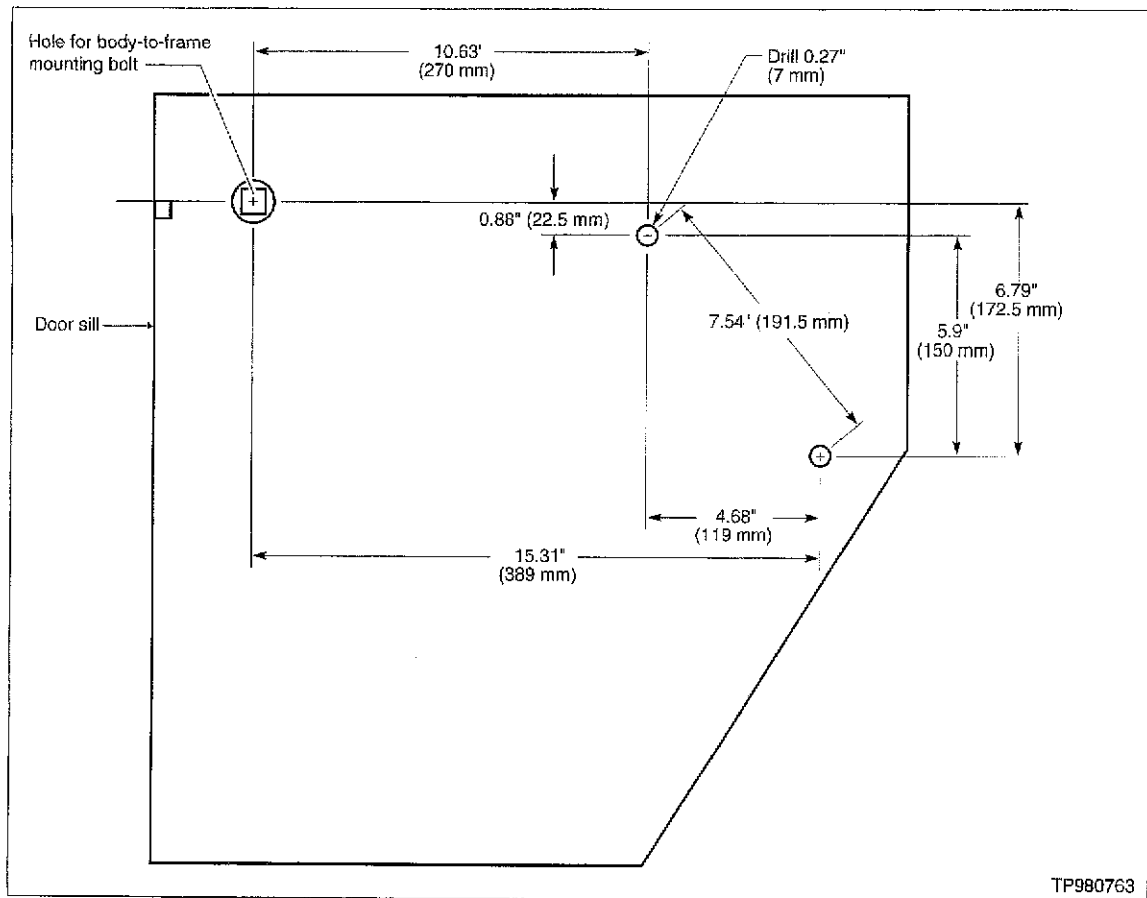

Figure 6
16. Drill two 1/4 in. (7mm) diameter holes in the floor using Figure 6 as a guide for installing the heat insulator stud bolts.